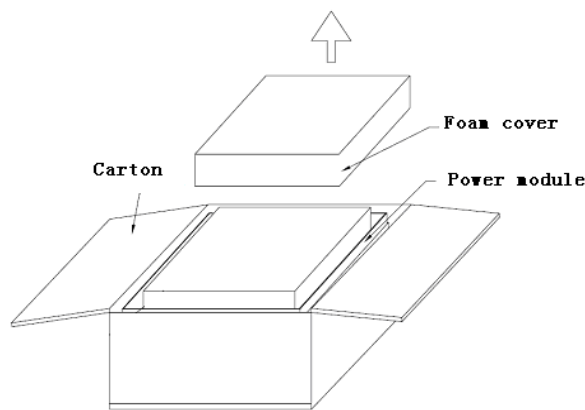

Figure 3-9 Open the foam package lid
Step 3 Open the foam packaging lid and see the device with plastic packaging, as shown in Figure 3-9